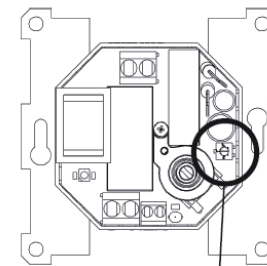

Fig. 5A
A. Room and floor thermostat – The thermostat regulates the room temperature by means of the built-in sensor. We recommend this setting for wood floors. The external floor sensor operates as a temperature limiter. The setting as shown in Fig 5a of approx. 27°C applies to wooden floors.